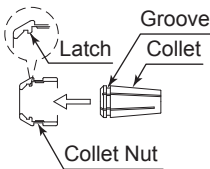
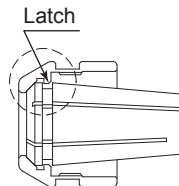
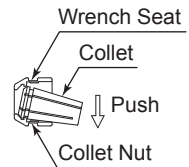
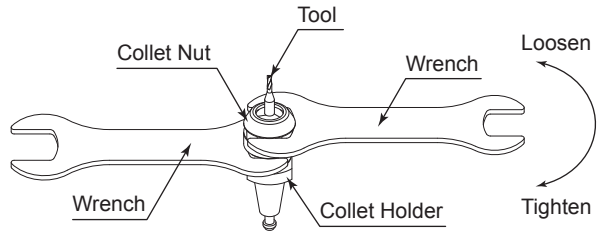

Fig. 5
Fig. 6
Fig. 7
Fig. 9
- (1) Attach the collet to the collet nut. Be sure to fully engage the latch inside the collet nut to the groove on the collets outer circumference area (Fig. 5, Fig. 6) (Install the collet in the collet nut by positioning the collet in the collet nut and pressing down on flat surface (Fig. 7)).
- (3) Insert the tool in to the collet and position the wrench on the collet holder. Position the wrench on the collet nut, then tighten the collet nut by turning clockwise (Fig. 9).
- (4) When removing the tool, set the wrench on the collet nut and turn it counterclockwise to loosen the collet and remove the tool (The first turn will loosen the collet nut, but the tool will not release and turning will become stiff. Keep turning through the stiffness and the collet will open).
- (5) When removing the collet, the collet and collet nut are secured by a groove in the collet and a flange in the collet nut. To remove the collet hold the collet nut in one hand and push diagonally down on the collet. The collet should be released (Fig. 7).